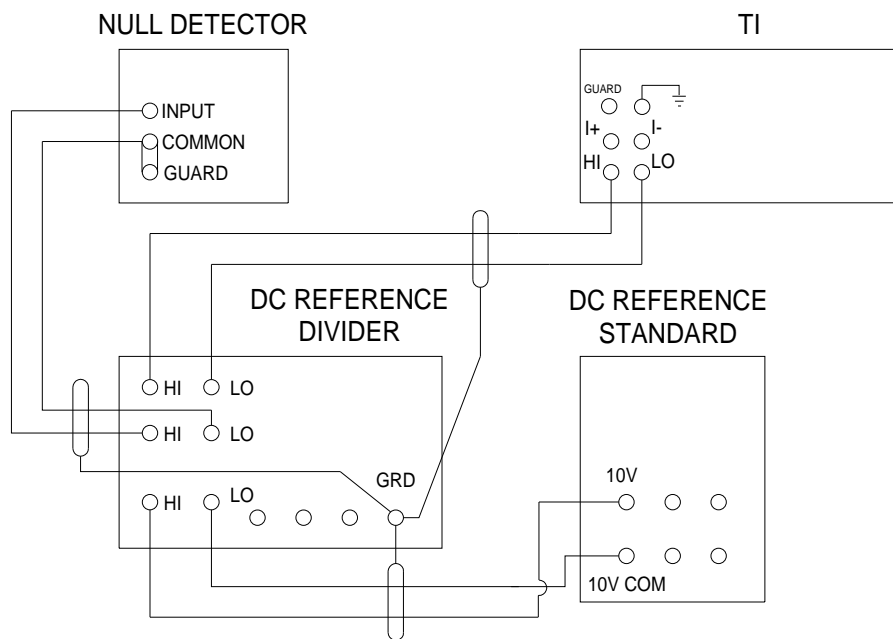

Figure 2.
- 4.5.26 Change the test setup as shown in Figure 2.